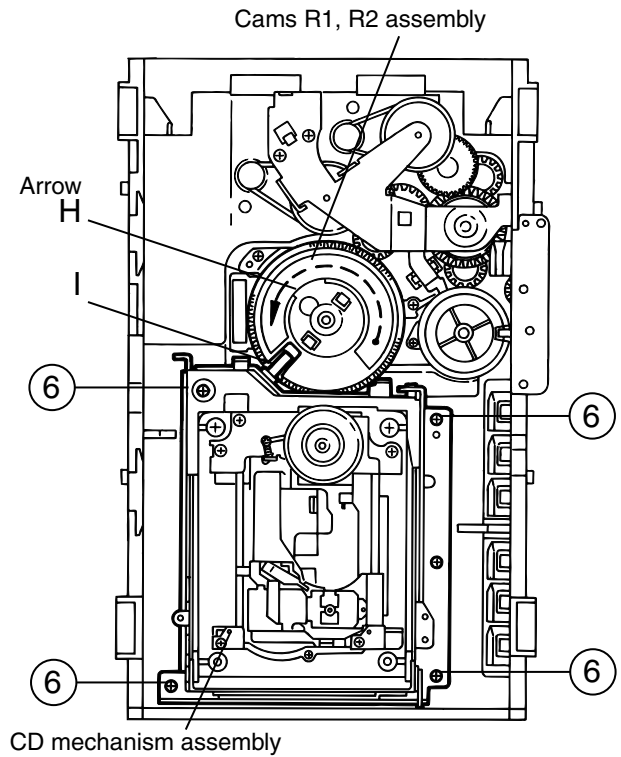

Fig.10
■ Removing the DVD mechanism assembly(See Fig.10)
1. While turning the cams R1 and R2 assembly in the arrow direction "H" , align the shaft "I" of the DVD mechanism assembly to the position shown in Fig.10.